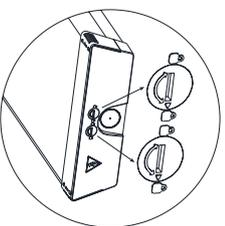

fig.2.
- The end caps are sprung loaded, pull the end cap away from the body to access the diffuser. Once you can access the diffuser lift up and out of the fitting by pulling out of the opposite end cap as shown in fig.2.